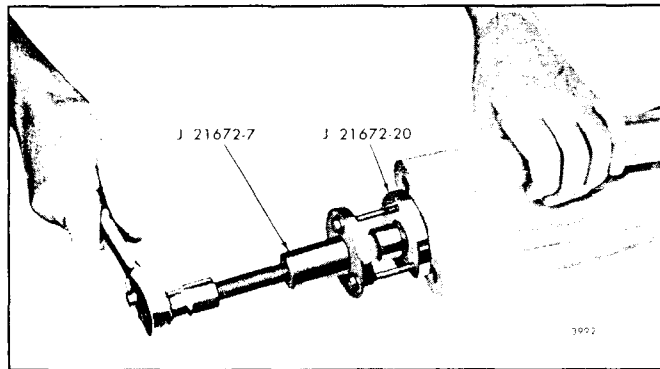

Fig. 9 - Removing Oil Seal Sleeve and Roller Bearing Inner Race from Rotor Shaft
- a. Place the roller bearing inner race and oil seal sleeve remover J 21672-20 over the rotor shaft behind the oil seal sleeve as shown in Fig. 9.
- b. Back out the center screw of one gear puller J 21672-7, then attach the puller to the oil seal sleeve remover with three 1/4 "-20 x 3 " bolts and flat washers as shown in Fig. 9.